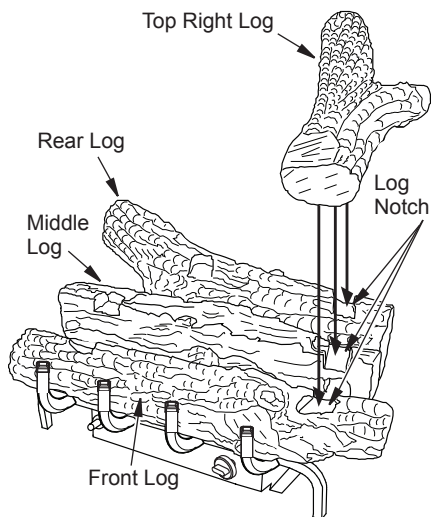

Figure 27 - Installing Top Right Log
4. Place the top right log onto the rear, middle and front logs as shown in Figure 27 (page 19). The rear, middle and front logs has notches for the top right log to set into. You may have to move the front log from left to right to get it to line up with the top right log.